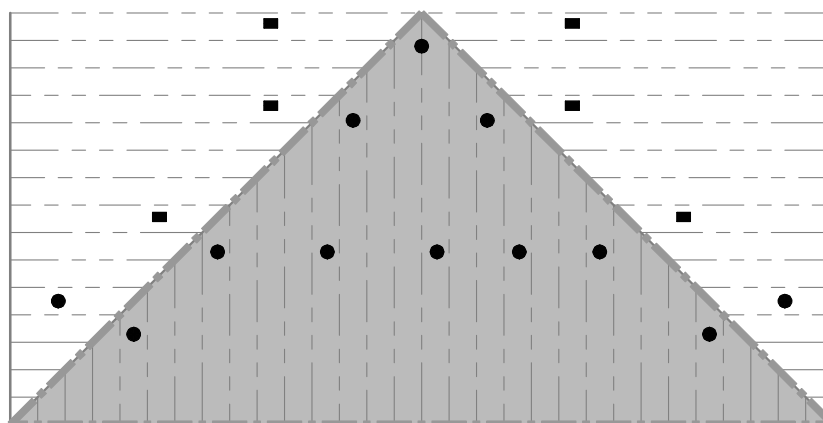

FIGURE 17: HYDRAULIC CALCULATIONS REQUIRED FOR RE @ HIP
- Calculate all sprinklers within the hip area shown shaded. See FIGURE 17.